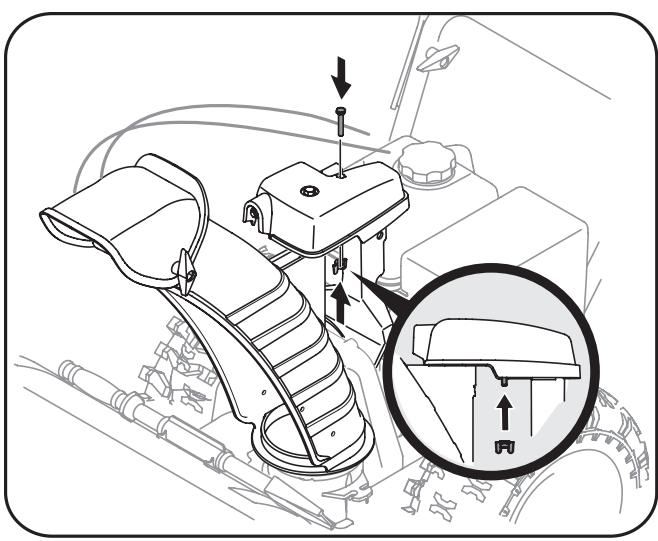

Fig. 3-5
- Finish securing chute control assembly to chute support bracket with wing nut and hex screw removed earlier. See Fig. 3-5.